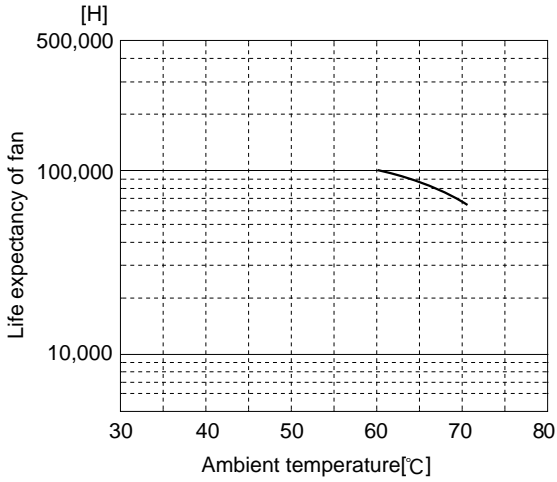

Fig.7.1 Life expectancy of long-lived fan
- The difference from standard is shown Fig.7.1.